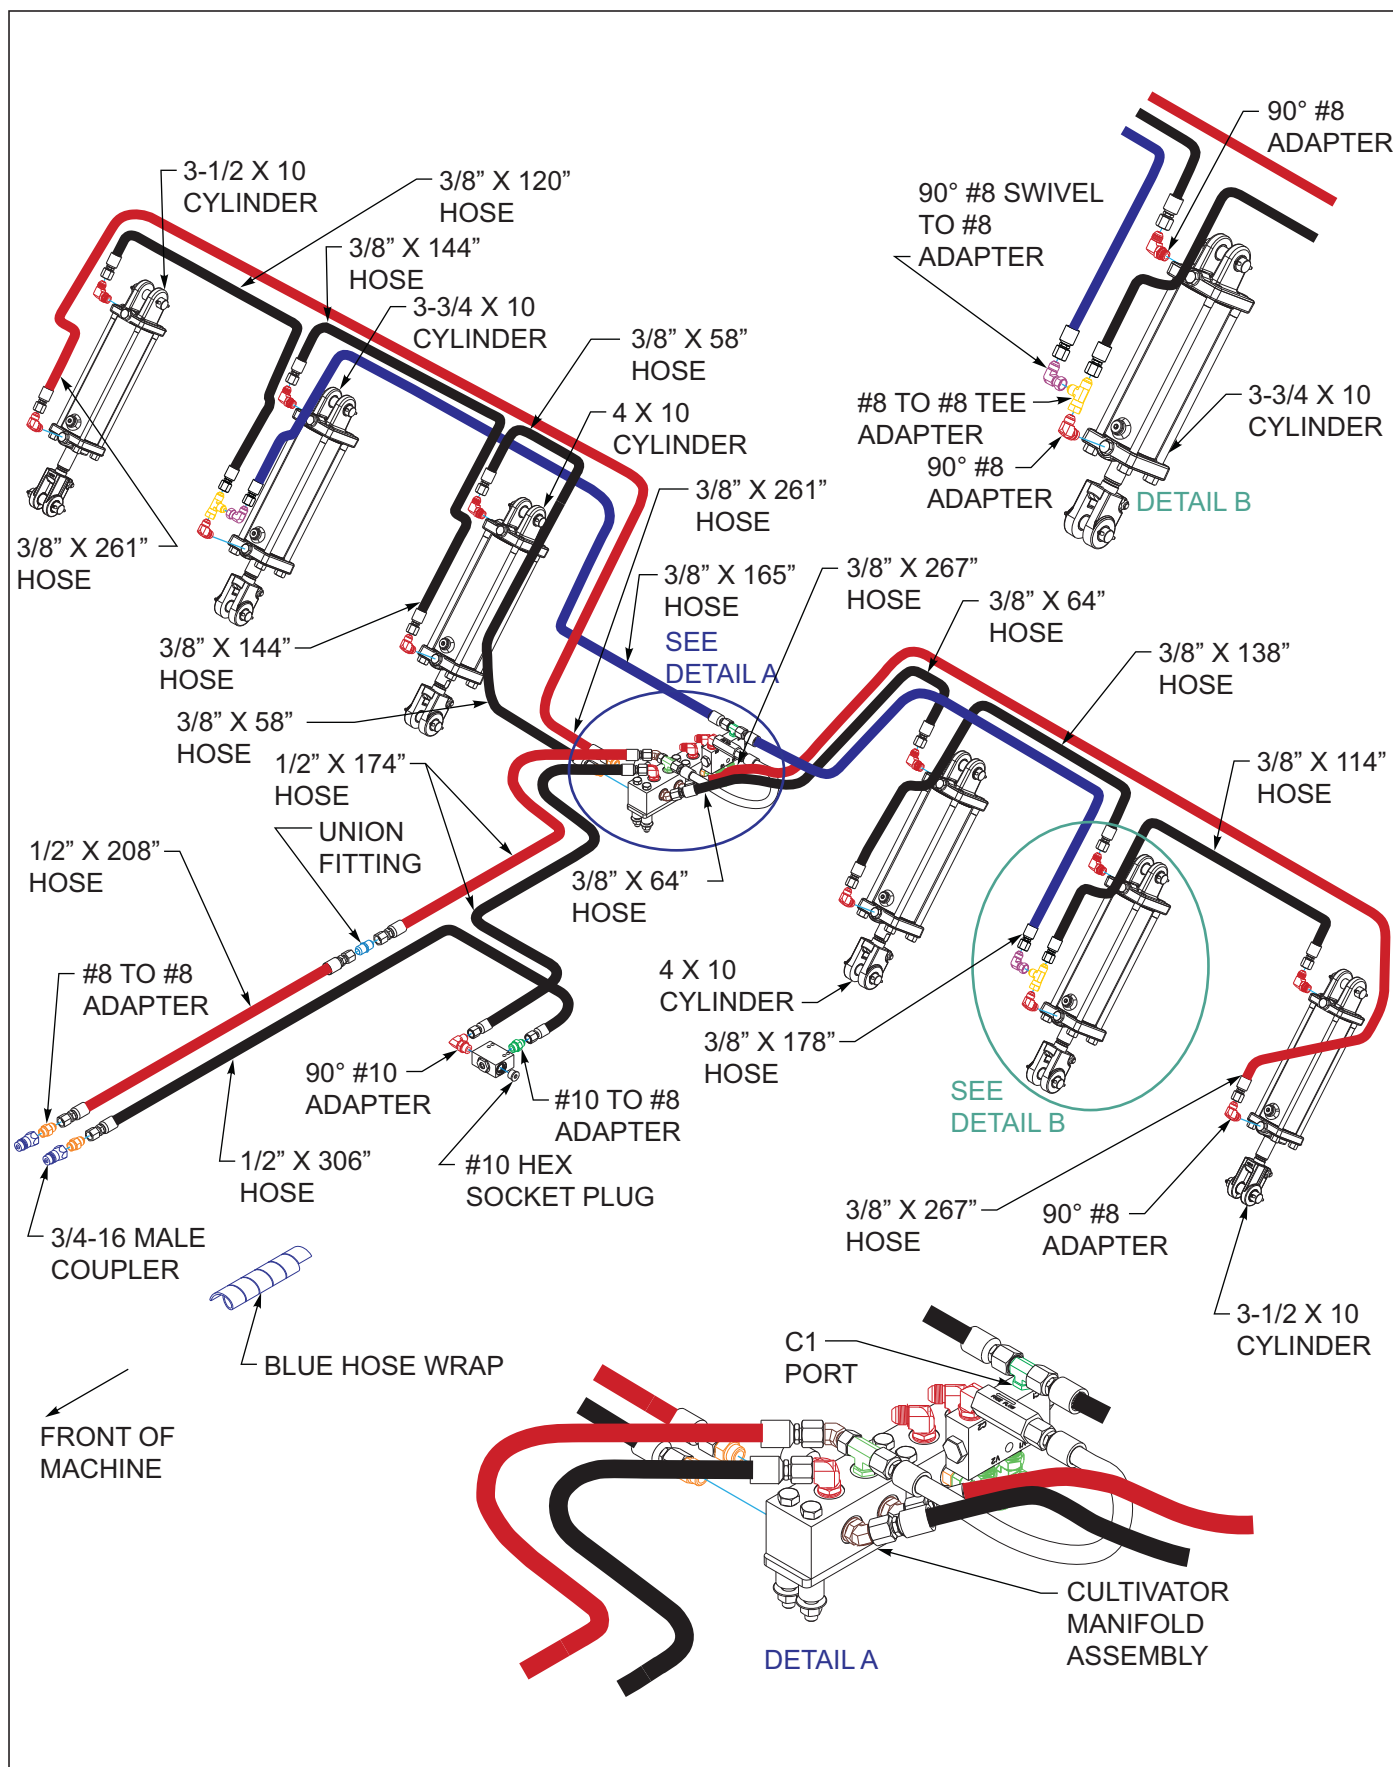
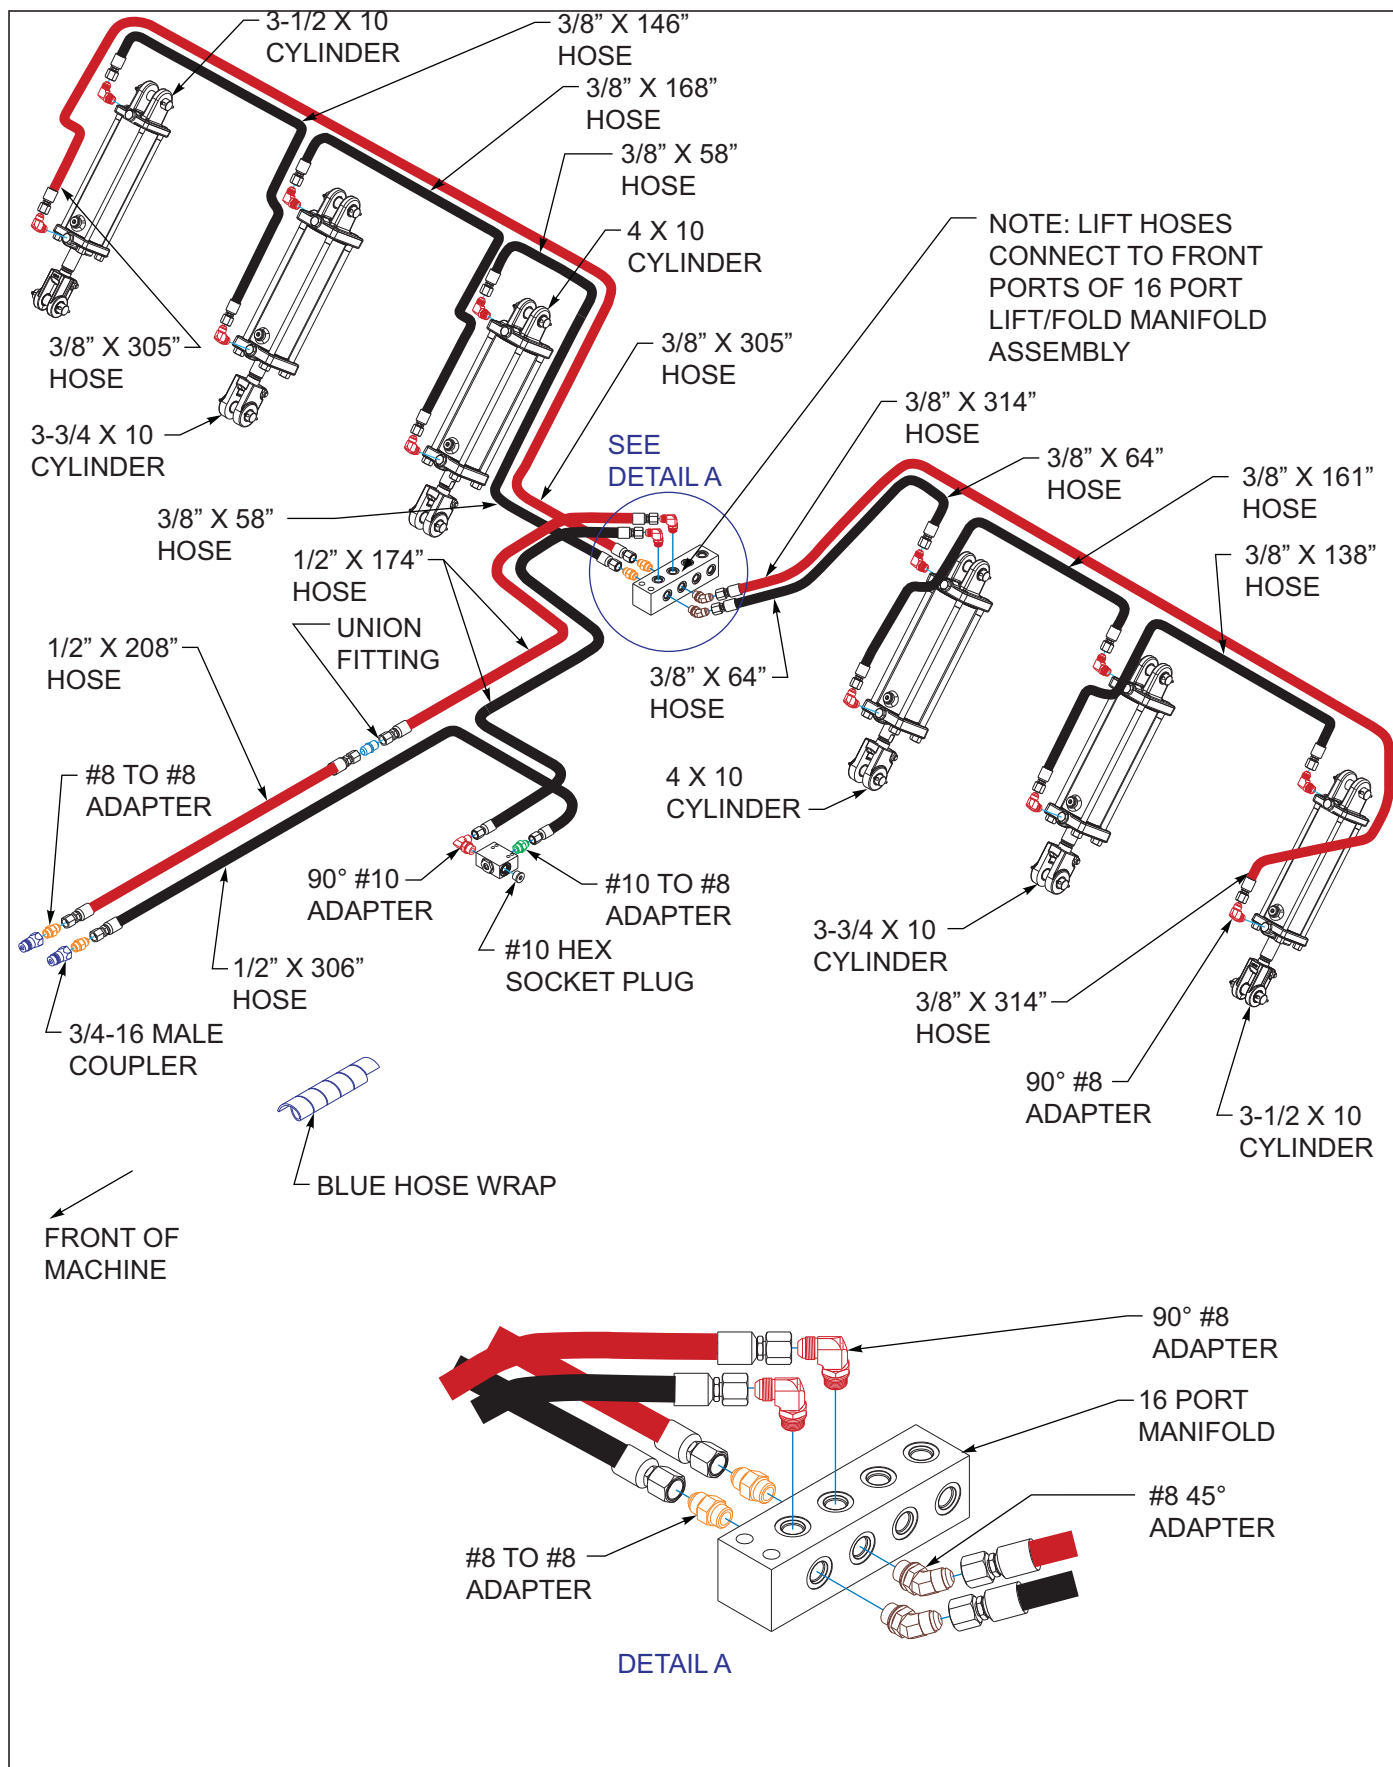

Figure 3-13: Hydraulic Lift Installation 9450FH-38' - 42'
Figure 3-19: Hydraulic Lift Installation 9450FH-46' - 50'
See Figures 3-13 through 3-24 for hydraulic cylinder fittings (factory installed and those installed during setup.)
Refer to Figures 3-13 and 3-18 for lift and fold hydraulic diagrams for 9650-38' and 9650-42' models.
Refer to Figures 3-19 and 3-24 for lift and fold hydraulic diagrams for 9650-46' and 9650-50' models.
4. Install 90 degree regular adapter fittings in both ends of all lift cylinders (4 x 10, 3-3/4 x 10, and 3-1/2 x 10) **See Figures 3-13 and 3-19**. Install base fitting in side port, with both fittings pointing upward.
9. Install lift system hoses per Figure 3-13 (9650-38 and 9650-42) or Figure 3-19 (9650-46 and 9650-50.) Wrap lift system hoses with blue hose wrap.